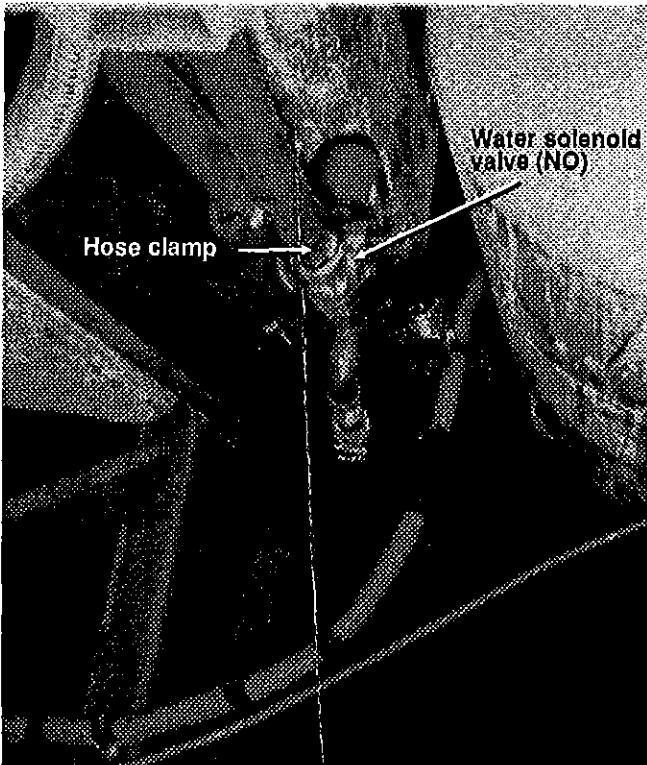

FIG. 25
3. Locate the normally-opened water solenoid valve on the ceiling of the compartment at rear of front bumper (see fig. 25), disconnect its wiring connector, then connect a 24 volt external power source, using jumper cables, to close valve.